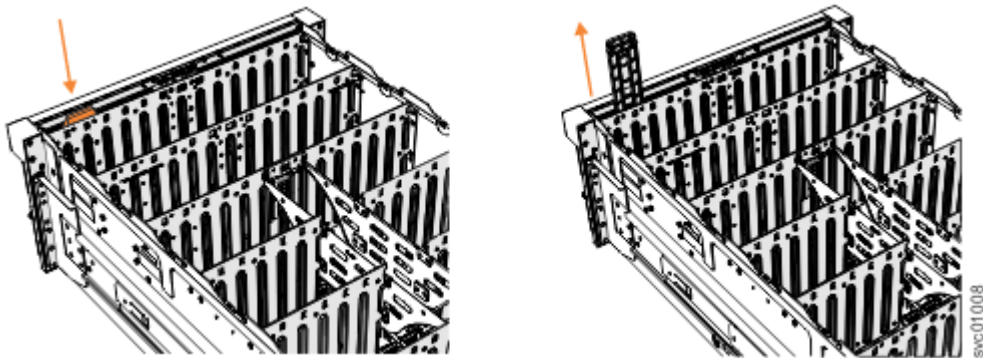

Figure 135. Removing the display panel assembly
3. Press the release tab at the top of the display panel assembly, as shown in Figure 135 on page 172.